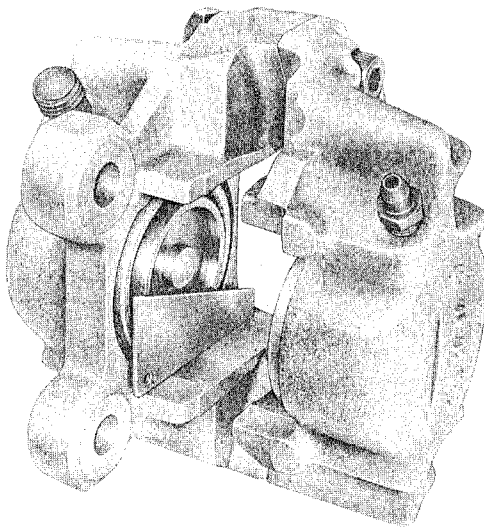

Fig. 47
6. The piston gauge must be inserted into the brake caliper always from the direction of the axle's center and the stepped-down part of the piston must line up with the slanted edge of the piston gauge. When aligning the pistons in the front brake calipers, the right-angle edge of the gauge is placed on the bottom edge of the caliper. When aligning the rear brake calipers, the right-angle edge of the gauge is placed against the upper edge of the calipers. Fig. 47 shows a brake caliper for the front brake.